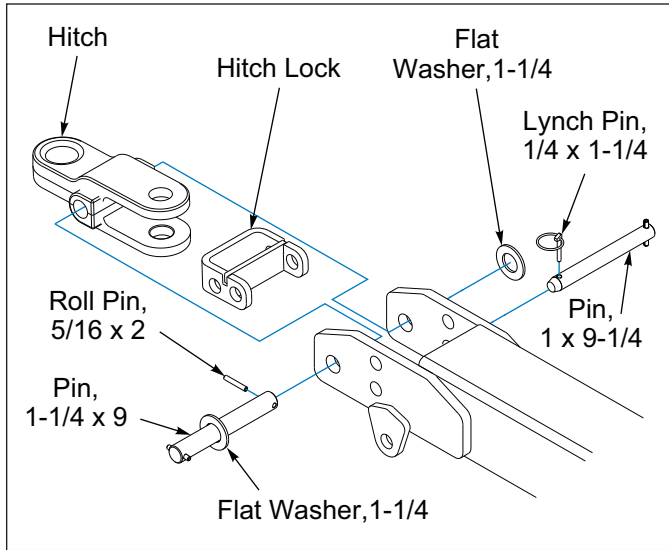

Figure 3-1: Spade Position
- **Spade position:** Insert the Hitch Lock into the clevis end opening. Secure the Hitch Lock with 1 x 9-1/4 Pin and 1/4 x 1-1/4 Lynch Pin. **See Figure 3-1.**